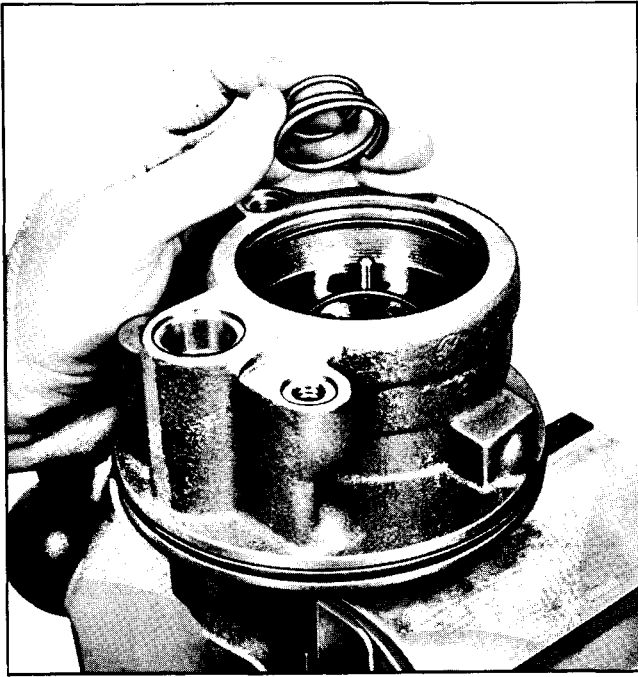

Fig. 9-124 Installing Pressure Plate Spring
9. Install pressure plate spring in center groove of pressure plate (Fig. 9-124).